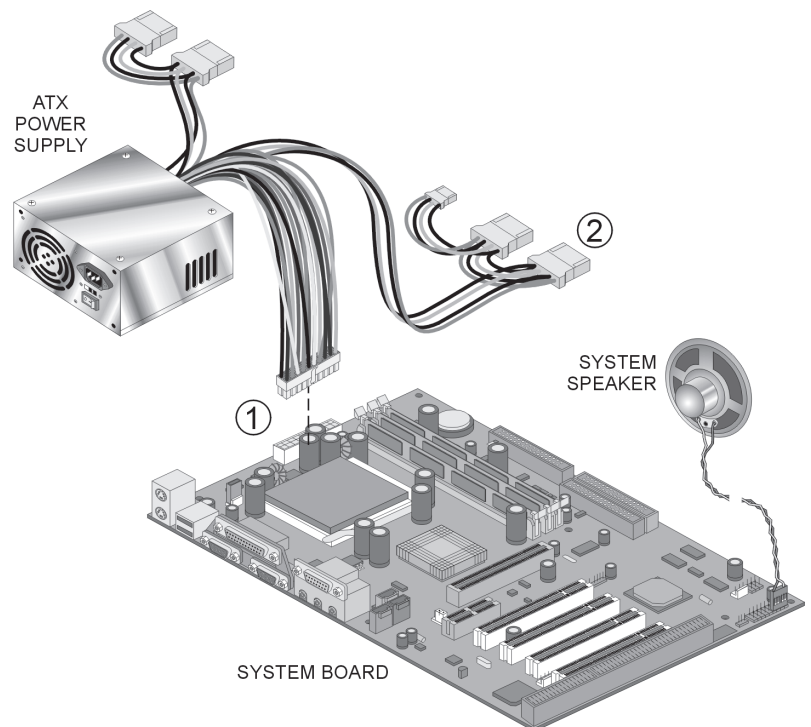

Figure 5-1: Power Supply Connector
- \_\_\_ b. Look for the 20-pin ATX power connector that is plugged into the board. It should look similar to location 1 in Figure 5-1.